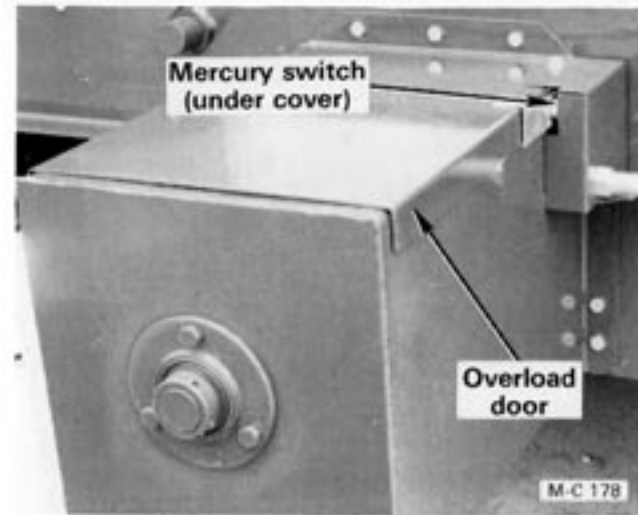

Figure 26
- If the customer supplied grain take away system fails, the dryer will continue to discharge grain until the rear discharge overload door, Figure 26, is raised by the grain.